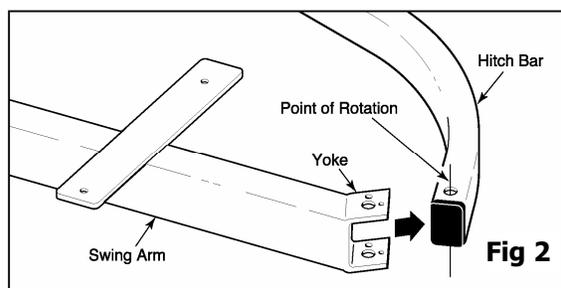
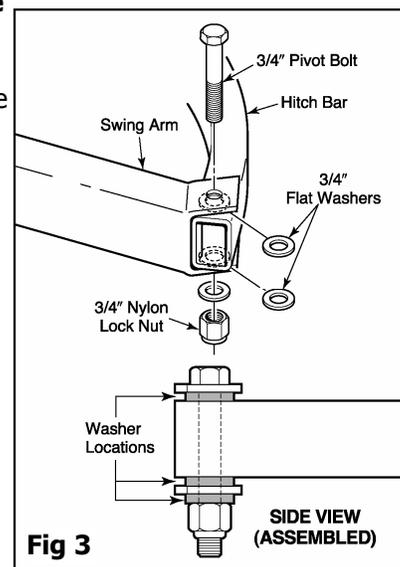

Fig 2
Fig 3
- Fit the swing arm yoke over the point of rotation on the hitch bar. **See Fig 2.** You will have four 3/4" flat washers in your hardware kit, two brass colored and two silver colored. The brass washers should go under the head of the pivot bolt and under the nut as it is tightened onto the bolt. The first silver washer should be placed at the bottom of the hitch bar between the yoke and the hitch bar. The second silver washer should be placed on top of the hitch bar **if there is room.** Washer placement is important for wear and smooth operation of the swing arm. **See Fig 3.** When finished you will have three to four washers in place on the pivot bolt; one under the head of the bolt, one or two between the yoke and the hitch bar and one between the nut and the yoke. Tighten the nylon lock nut onto the pivot bolt until the swing arm swings freely, yet with light resistance. **The nut must be tightened snugly to the bottom of the yoke.**